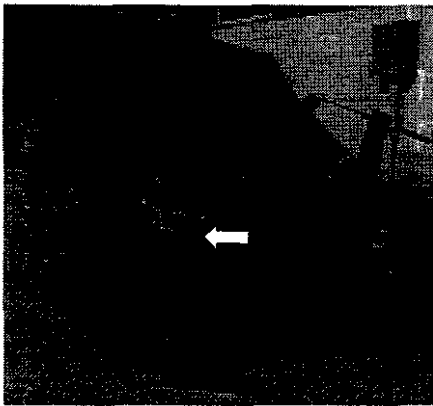

figure 27
- a. Remove the lock pin and stand (figure 27) from each side of the brush head assembly.